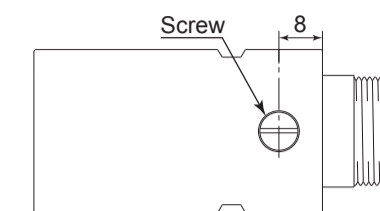

Fig. 4
- Remove the Grease Inlet Screw on the Reducer with a screw driver (Fig. 4).